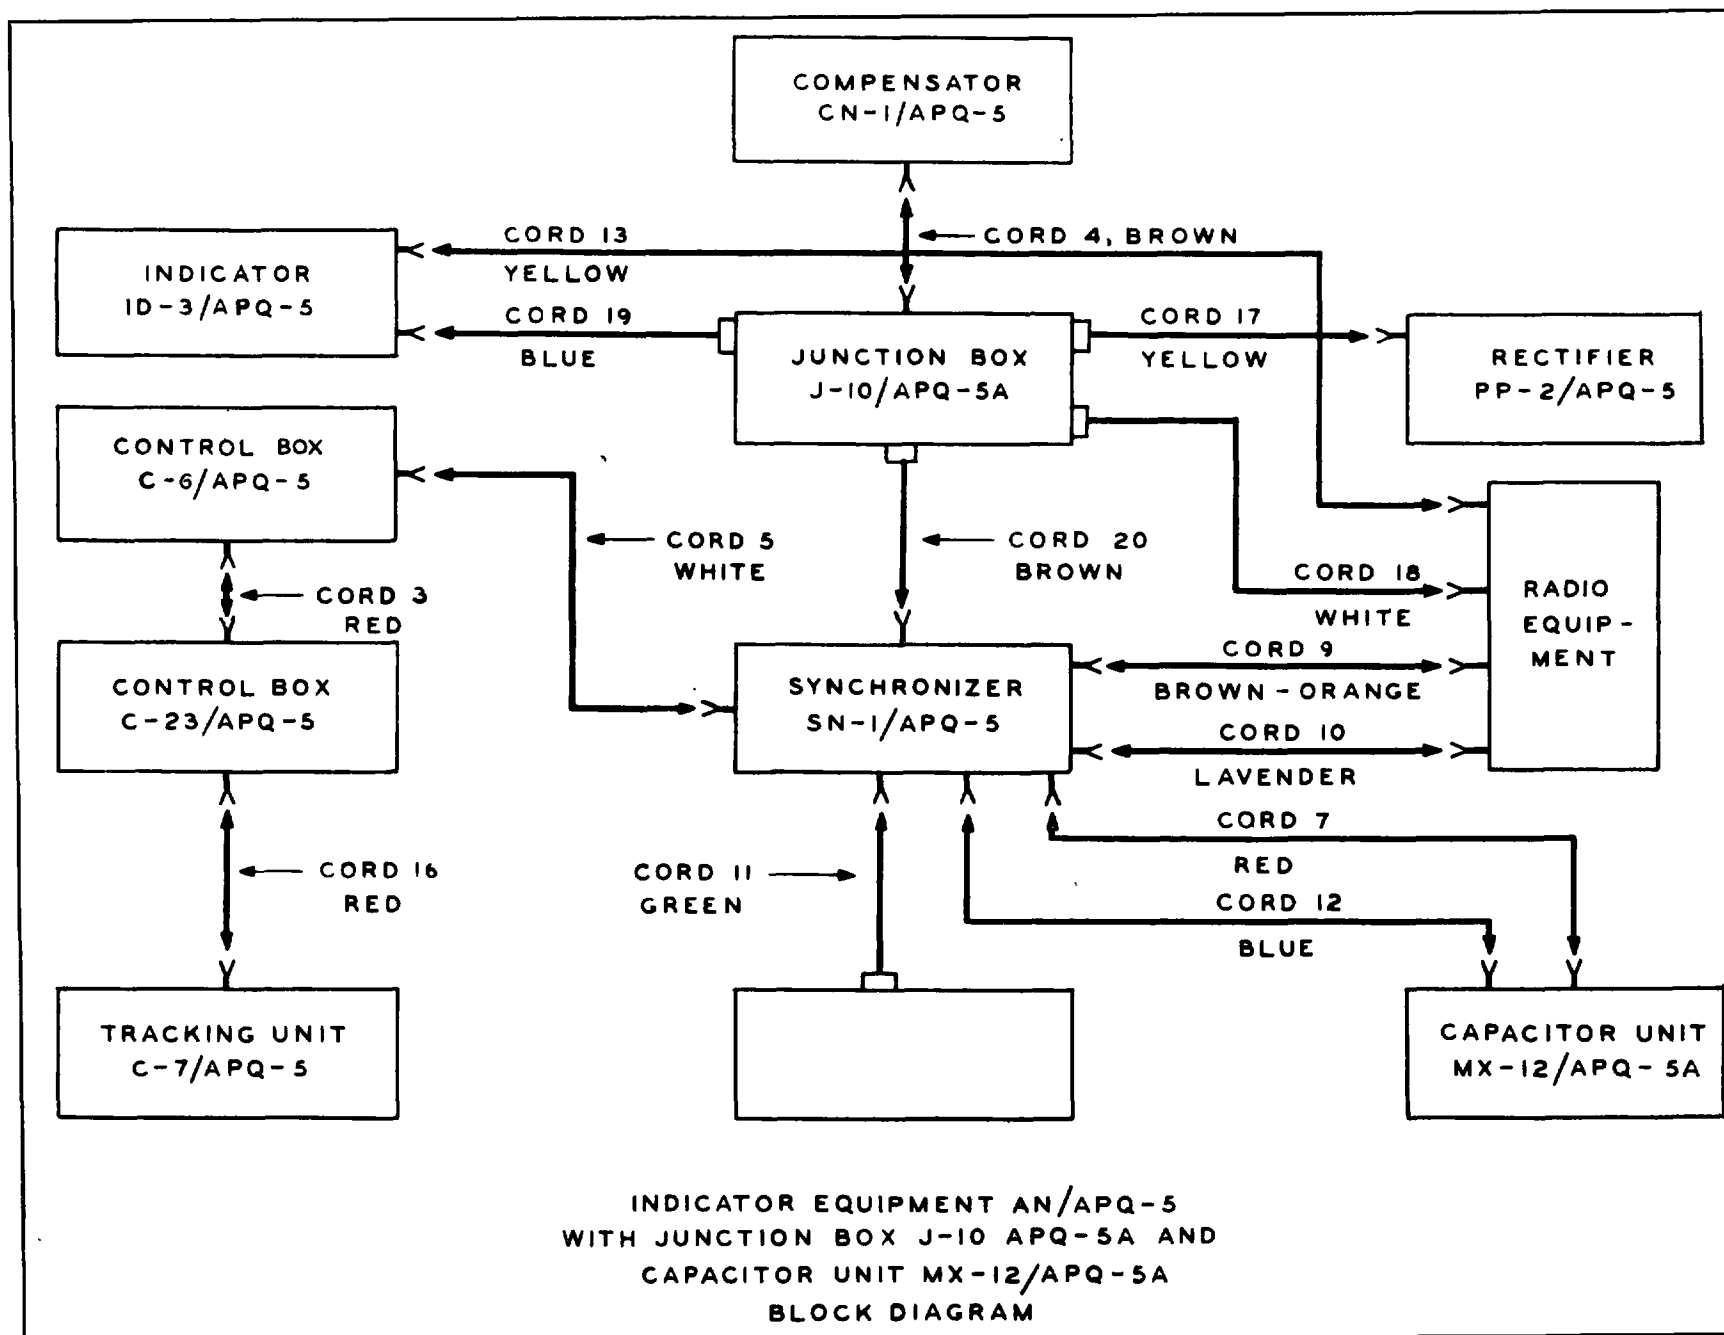

Figure 1-3. Indicator Equipment AN/APQ-5 With Junction Box J-10/APQ-5A and Capacitor Unit MX-12/APQ-5A—Block Diagram
a. Indicator Equipment AN/APQ-5B is composed of the units shown in figure 1-1. Indicator Equipment AN/APQ-5 (Mod.) is composed of the units shown on figure 1-3. Figure 1-3 includes the separate junction box and capacitor units supplied with later equipments.